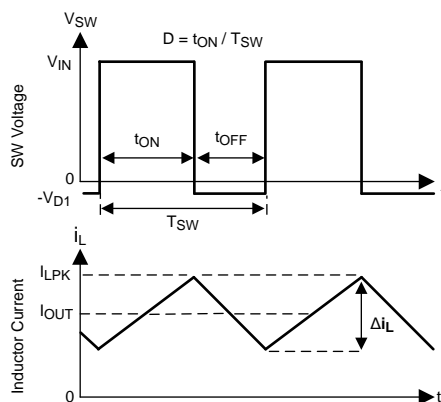

Figure 33. SW Node and Inductor Current Waveforms in Continuous Conduction Mode (CCM)
The following operating description of the LM46001-Q1 refers to the *Functional Block Diagram* and to the waveforms in *Figure 33*. The LM46001-Q1 is a step-down Buck regulator with both high-side (HS) switch and low-side (LS) switch (synchronous rectifier) integrated. The LM46001-Q1 supplies a regulated output voltage by turning on the HS and LS NMOS switches with controlled ON-time. During the HS switch ON-time, the SW pin voltage V_{SW} swings up to approximately V_{IN} , and the inductor current I_L increases with a linear slope $(V_{IN} - V_{OUT}) / L$. When the HS switch is turned off by the control logic, the LS switch is turned on after a anti-shoot-through dead time. Inductor current discharges through the LS switch with a slope of $-V_{OUT} / L$. The control parameter of buck converters are defined as duty cycle $D = t_{ON} / T_{SW}$, where t_{ON} is the HS switch ON-time and T_{SW} is the switching period. The regulator control loop maintains a constant output voltage by adjusting the duty cycle D . In an ideal buck converter, where losses are ignored, D is proportional to the output voltage and inversely proportional to the input voltage: $D = V_{OUT} / V_{IN}$.